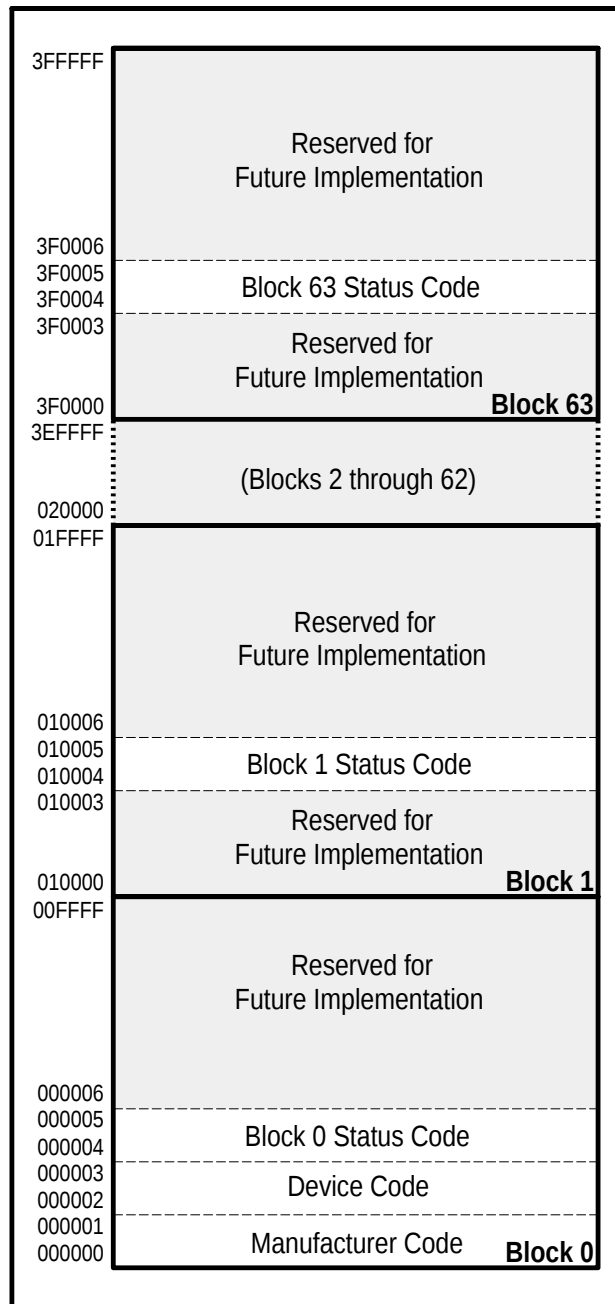

Figure 4. Device Identifier Code Memory Map
The read identifier codes operation outputs the manufacturer code, device code, block status codes for each block (see Figure 4). Using the manufacturer and device codes, the system CPU can automatically match the device with its proper algorithms. The block status codes identify locked or unlocked block setting and erase completed or erase uncompleted condition.
| Read Identifier Codes | 9       | V IH | V IL                                       | V IL                                       | V IL | V IH | See Figure 4   | X               | Note 5             | High Z |
| Read Identifier Codes | 9       | V IH | V IL                                       | V IL                                       | V IL | V IH | See Figure 4   | X               | Note 5            | High Z |
IA=Identifier Code Address: see Figure 4.
The identifier code operation is initiated by writing the Read Identifier Codes command. Following the command write, read cycles from addresses shown in Figure 4 retrieve the manufacturer, device, block lock configuration and block erase status (see Table 5 for identifier code values). To terminate the operation, write another valid command. Like the Read Array command, the Read Identifier Codes command functions independently of the  $V_{PP}$  voltage and  $RP\#$  must be  $V_{IH}$ . Following the Read Identifier Codes command, the following information can be read:
1. X selects the specific block status code to be read. See Figure 4 for the device identifier code memory map.